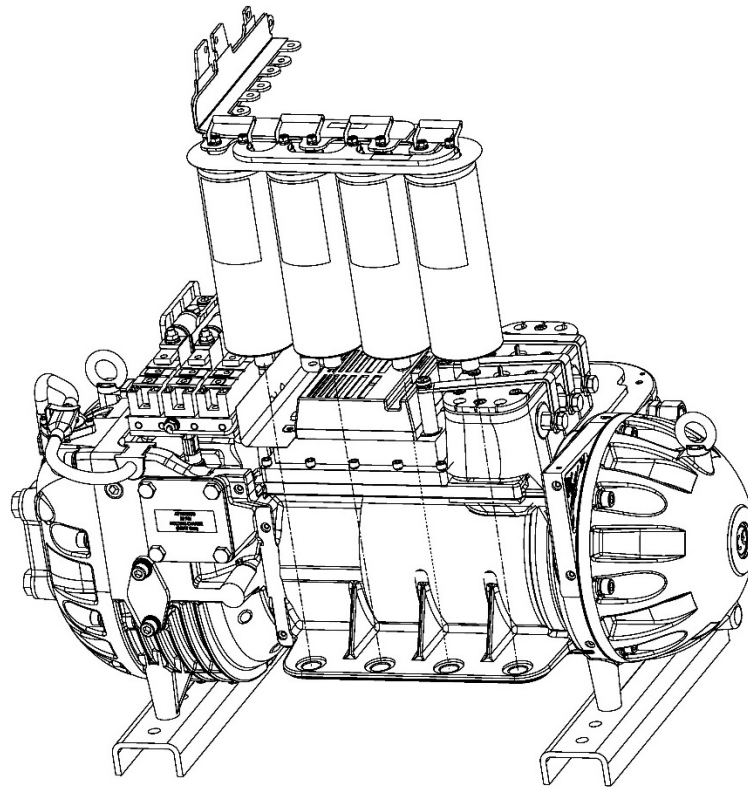

Figure 13 – Capacitor Assembly Removal
23. Carefully lift the DC Bus Bars and capacitors out as an assembly. Refer to Figure 13 (Capacitor Assembly Removal).